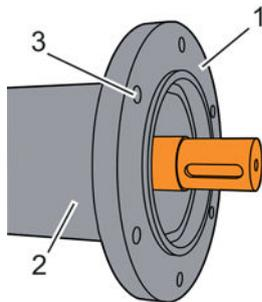

Fig. 88: Attaching the extension pipe
- 15. ➤ Secure the extension pipe (Fig. 88/2) with suitable lifting equipment or assembly supports so that it cannot fall.
! Operator-side transport eyes can be inserted into the boreholes (Fig. 88/3) of the fastening flange (Fig. 88/1).